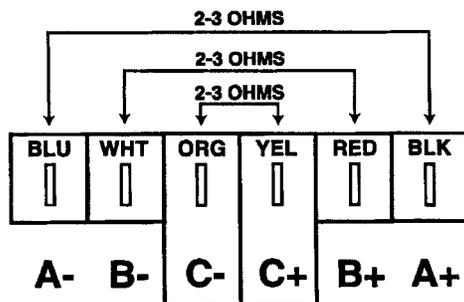

**Figure 4-7**
- a. Check the 10 amp fuse located on the control board, either visually or with an ohm meter. If bad, replace motor control/wire harness assembly completely. (*Figure 4-7*)